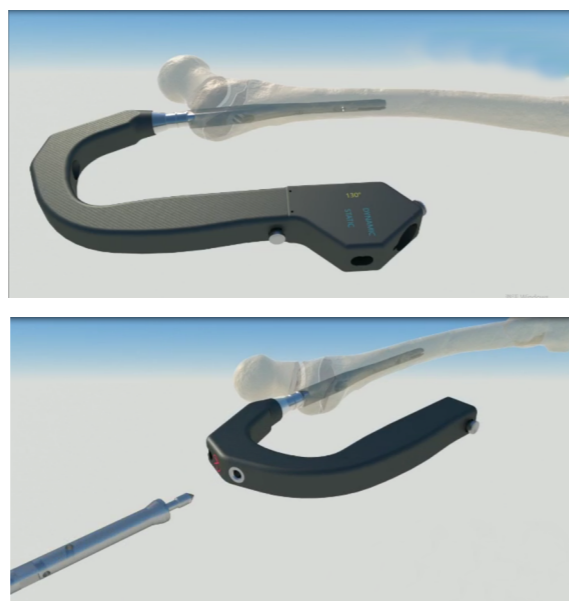

Figure 8a
- After confirming the accuracy, remove the guide block and other instruments, insert the main nail into the medullary cavity along the channel, and ensure that the final angle of the main nail is consistent with the anterior inclination angle of the femur (Figure 8a).